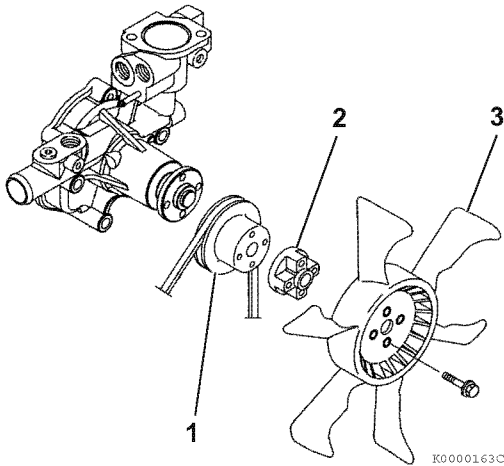

Figure 9-4
Remove the cooling water fan guard (if equipped), cooling fan (**Figure 9-4, (3)**), spacer (**Figure 9-4, (2)**), cooling water pump V-pulley (**Figure 9-4, (1)**), and V-belt.